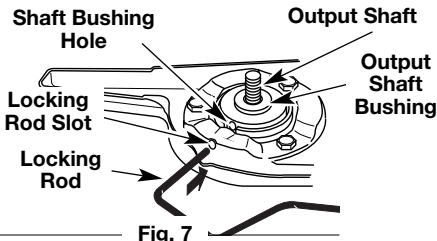
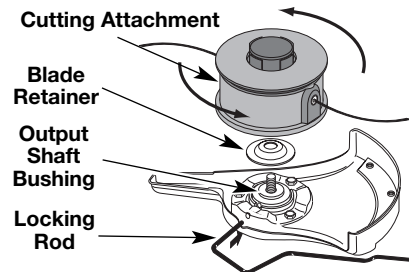

Fig. 7
Fig. 14
1. Align the shaft bushing hole with the locking rod slot and insert the locking rod into the shaft bushing hole (Fig. 7).
6. Align the shaft bushing hole with the locking rod slot and insert the locking rod into the bushing hole (Fig. 7).
1. Align the shaft bushing hole with the locking rod slot and insert the locking rod into the bushing hole (Fig. 7).
5. Align the shaft bushing hole with the locking rod slot and insert the locking rod into the shaft bushing hole (Fig. 7). Place the blade retainer on the output shaft with the flat surface against the output shaft bushing (Fig. 14). Screw the cutting attachment counterclockwise onto the output shaft. Tighten securely.